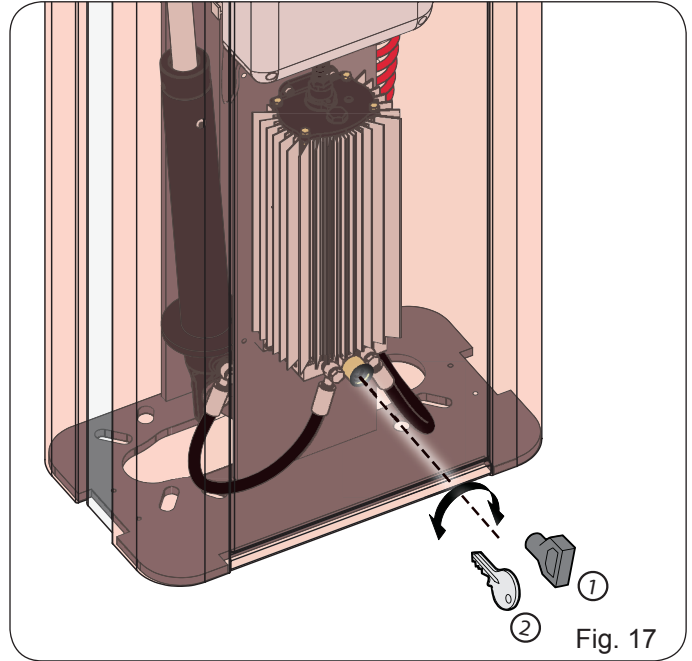

Fig. 17
Should manual operation of the barrier be required due to power outage or malfunction, the manual release device can be operated with the supplied key. The key is either triangular (Fig. 17 ref. ①) or customised (Fig. 17 ref. ② optional).
- Insert the key in the lock and turn it **all the way counter clockwise** until it clicks into place, as shown in Fig. 17
- (Fig. 17 ref. ①) standart triangular key
- (Fig. 17 ref. ②) optional metal key